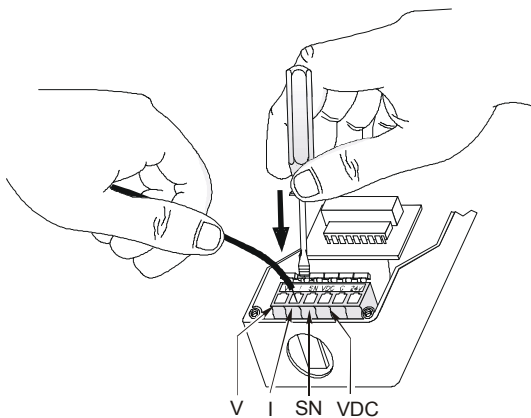

Figure 7: Cage Clamp Terminal Block
3. Release the clamp arm to secure the wire. See Figure 7.